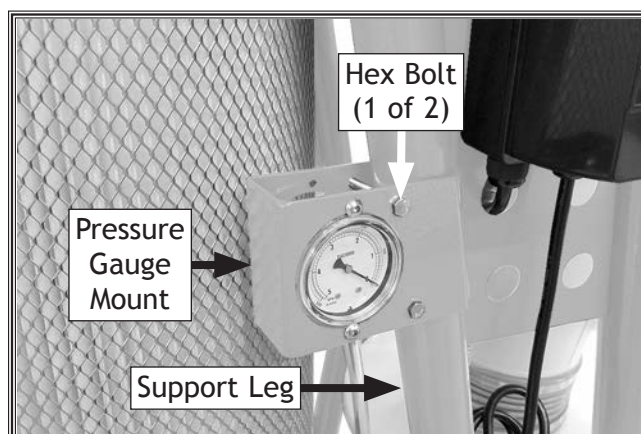

Figure 6. Example of pressure gauge mount placed on support leg.
5. Remove (2) flange nuts from hex bolts on pressure gauge assembly (see Figure 6).
6. Spread jaws of pressure gauge mount just enough to slide mount over support leg near magnetic switch, as shown in Figure 6.